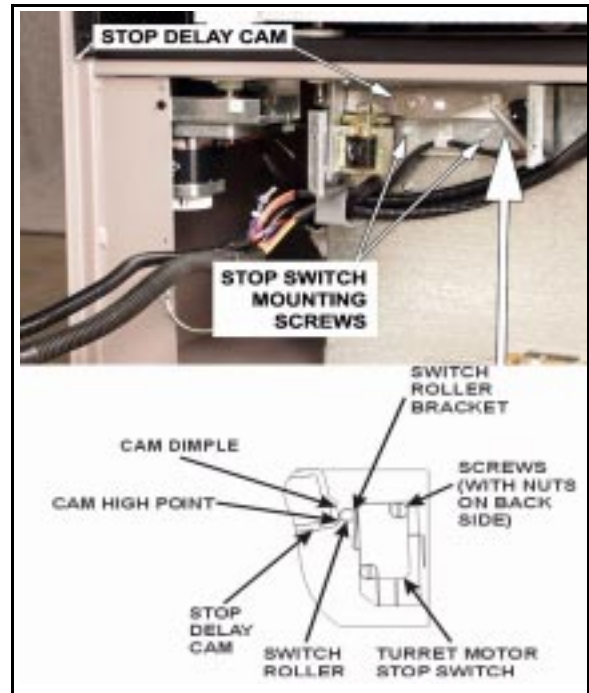

Figure 14
1. Adjust the stop pin solenoid as follows (figure 14):